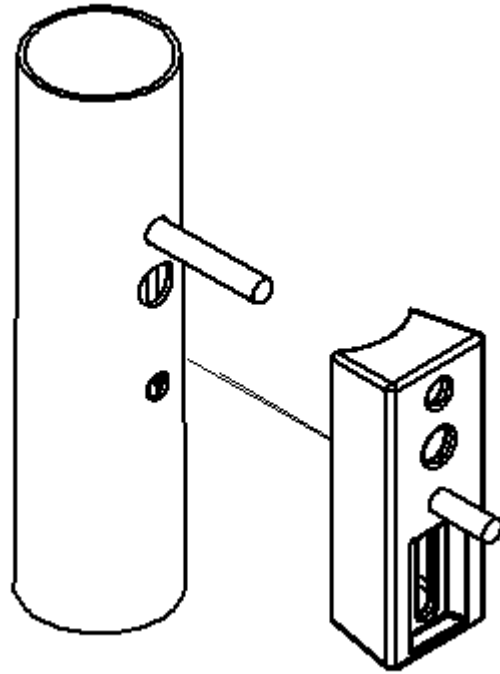

FIGURE 5A
6. Place bracket on protruding stud, with stud protruding out TOP bracket hole. Leave 1-3/8" protruding from bracket face. See Figure 5A , B & C.